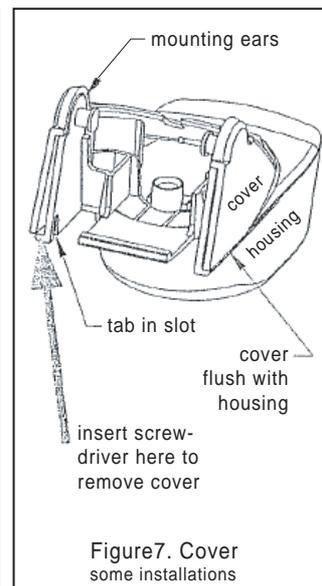

Figure7. Cover some installations
3. Insert a blade screwdriver between the cover and the transducer housing (see Figure7). Pry each side apart, in turn.
1. Spread the sides of the cover horizontally (see Figure7).